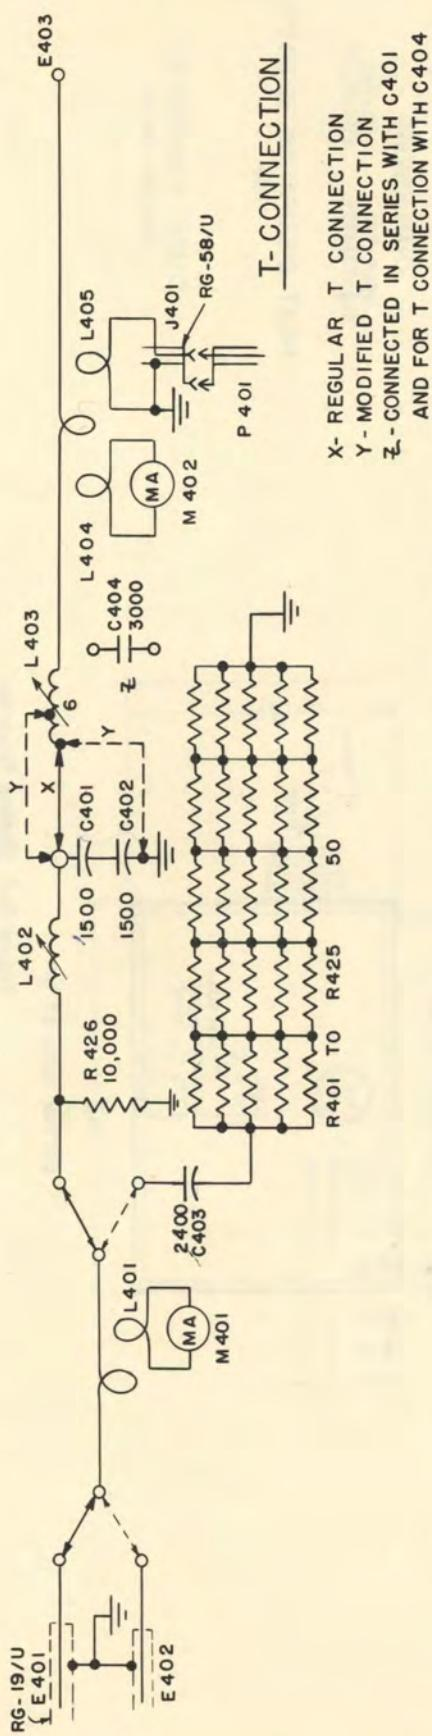

Figure 2-1. Schematic Diagram for T-Connection and Variations.
(1) **T-CONNECTION.**—The schematic diagram for the T-connection is shown in figure 2-1. These are two input cables, one terminating in E401 and the other in E402. Either cable may be used by connecting the link to the desired one. The line to the primary inductance L402 is bent into a loop which serves as the primary of a metering transformer. The secondary of the metering transformer is another loop, L401, which is connected to the Line Current meter M401. By varying the coupling between these
For loads in the vicinity of $25 + j150$ it is necessary to use the modified T-Connection. (See figure 2-1.) This connection raises the capacitive reactance of the midshunt branch by shunting C401 and C402 with part of L403 to form a circuit that approaches parallel resonance.
For loads in the vicinity of $150 + j150$ it is necessary to use the T-Connection with C404. (See figure 2-1.) In this connection the capacitive reactance of the midshunt branch is increased by connecting C404 in series with C401 and C402.